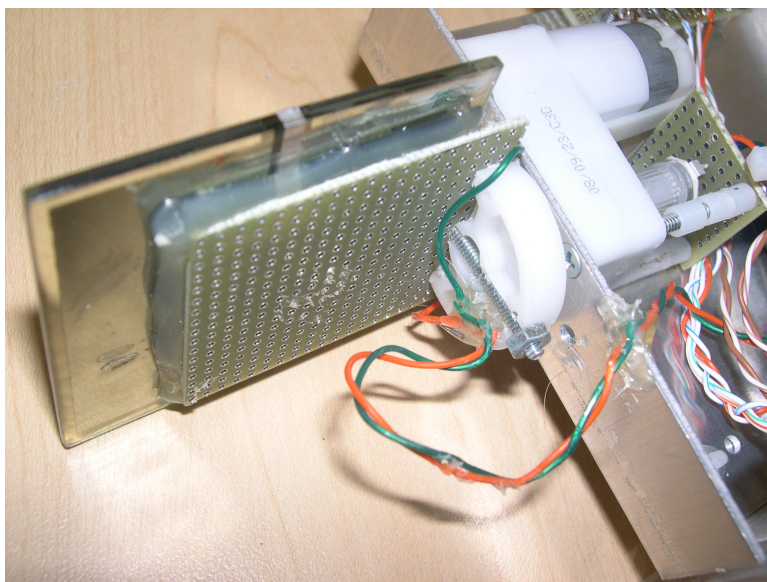

Figure 6.6: Completed Solar Servo
5. The protoboard mounted to the hub is shown in Figure 6.6.